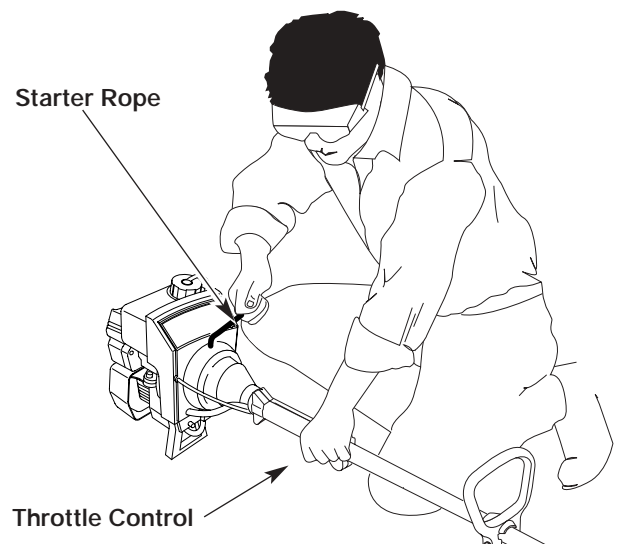

Fig. 8
WARNING: Avoid accidental starting. Make sure you are in the starting position when pulling the starter rope (Fig. 8). To avoid serious injury, the operator and unit must be in a stable position while starting.
4. Crouch in the starting position (Fig. 8) and squeeze the throttle control.